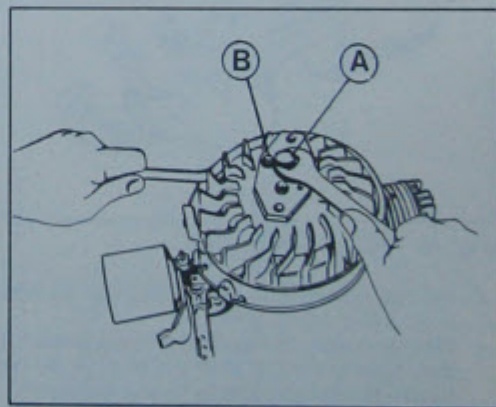

Fig. 52 Correct disassembly using tool K/1
- Place the tool as per Fig. 52 locating the screw «A» on to the crankshaft.
By using the tool and the 11/16 wrench the centre bolt can now be tightened (A). In this way the flywheel can be removed (see Fig. 52).